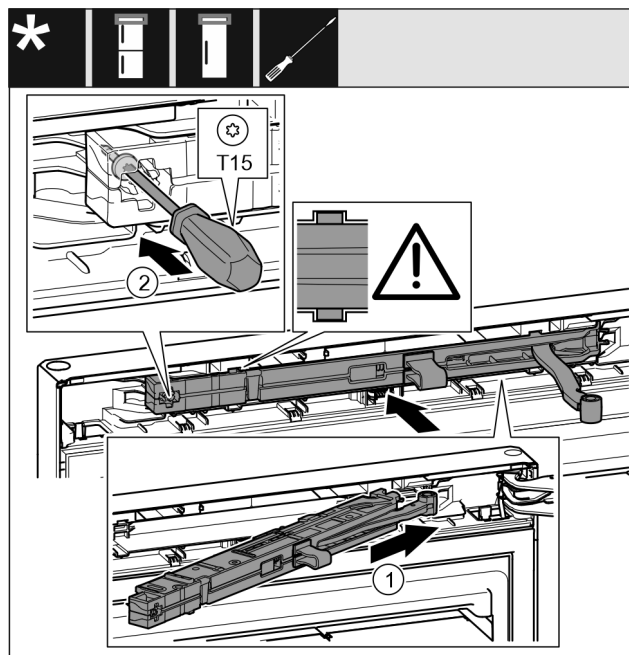

Fig. 51
- ▶ On the swap bearing block side, slide the closing damper unit *Fig. 51 (1)* into the recess at an angle up to the stop.
- ▶ Use a screwdriver to tighten the screw *Fig. 51 (2)*.